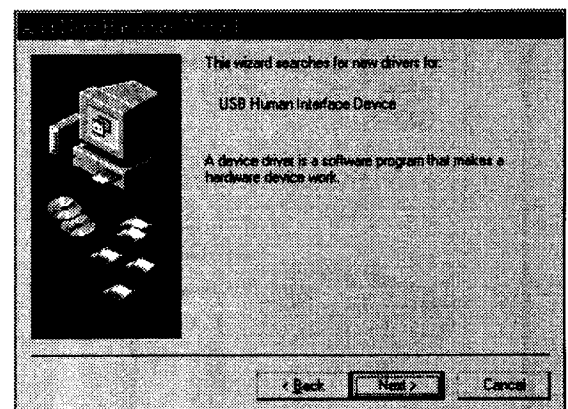
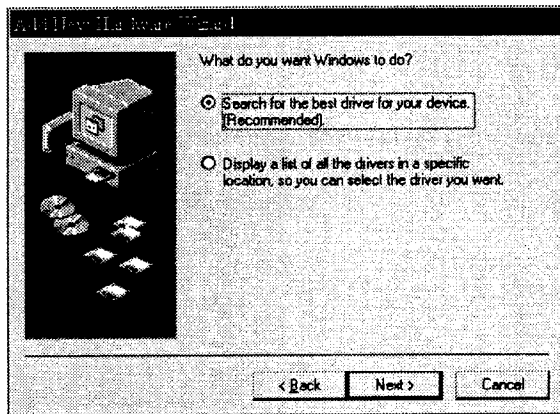
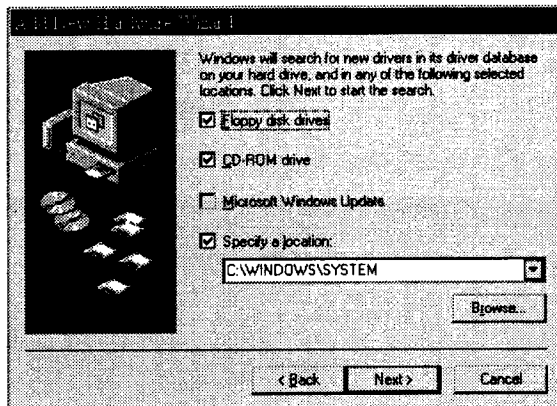

Figure 11
Figure 12
Figure 13
- (1) Insert Windows® 98 CD-ROM into your computer. Then, Figure 11 will appear.
(2) Click "Next" on Figure 11 and Figure 12 will appear.
(3) Click "Next" on Figure 12 and Figure 13 will appear.